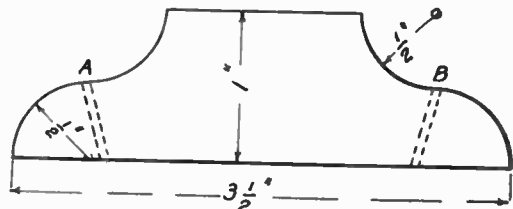
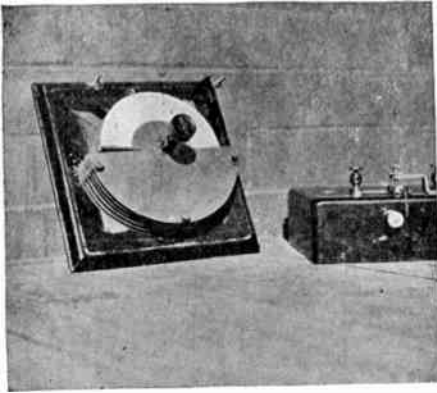

Fig. 3.
Fig. 2
Next, from the piece of wood (2) cut a block, as shown in Fig. 3, boring holes at A and B for screw eyes as above.
Fig. 3 shows roughly the electrical connections of a system of this kind. One of the most important features of this service is the fact that no current is used except when a carrier is in the line. When a carrier is inserted at the central office or at any of the out-stations, a small button making an electrical contact on the inlet or swivel, as the case may be, is closed by action of the door against the button. This closes the local battery circuit for an instant.
By again referring to Fig. 3, you will see that this circuit has two taps to magnets on the "timing device," which will be explained below. This local circuit, by virtue of the small magnet, closes the contacts connected with the 110-volt mains, completing the motor circuit and starting the motor-blower which generates compressed air for the out-going lines and produces vacuum for the receiving line.
In Fig. 3, the timing device is shown in the lower left-hand side of the sketch. The upper part of this device is a hollow receptacle shaped like two saucers placed together, with a leather disc or diaphragm between them. Attached to this leather disc is a small brass plate and a rod extending below towards the high voltage contacts. Just below the diaphragm plates is a magnet, while above is another which operates a small valve. To one side of the diaphragm is connected a small pipe coming from the vacuum side of the blower, and over the end of this pipe is placed a small cap in which is placed an adjustable orifice that permits air to be sucked out of the diaphragm shell at any desired rate.
The adjustable condenser being the most difficult part of the set to construct, we will therefore consider it first. In Fig. 2, we have given a photograph showing the appearance of the adjustable condenser with the cover removed. It will be seen that this consists of a number of semi-circular plates of brass, mounted in a fixed position on the base-board, and between which rotate smaller semi-circular plates, the top one of which is provided with a graduated scale so that the degree of rotation may be instantly determined. Referring to Fig. 3, we have a drawing showing the side elevation, plan, and cross-section views of this condenser.